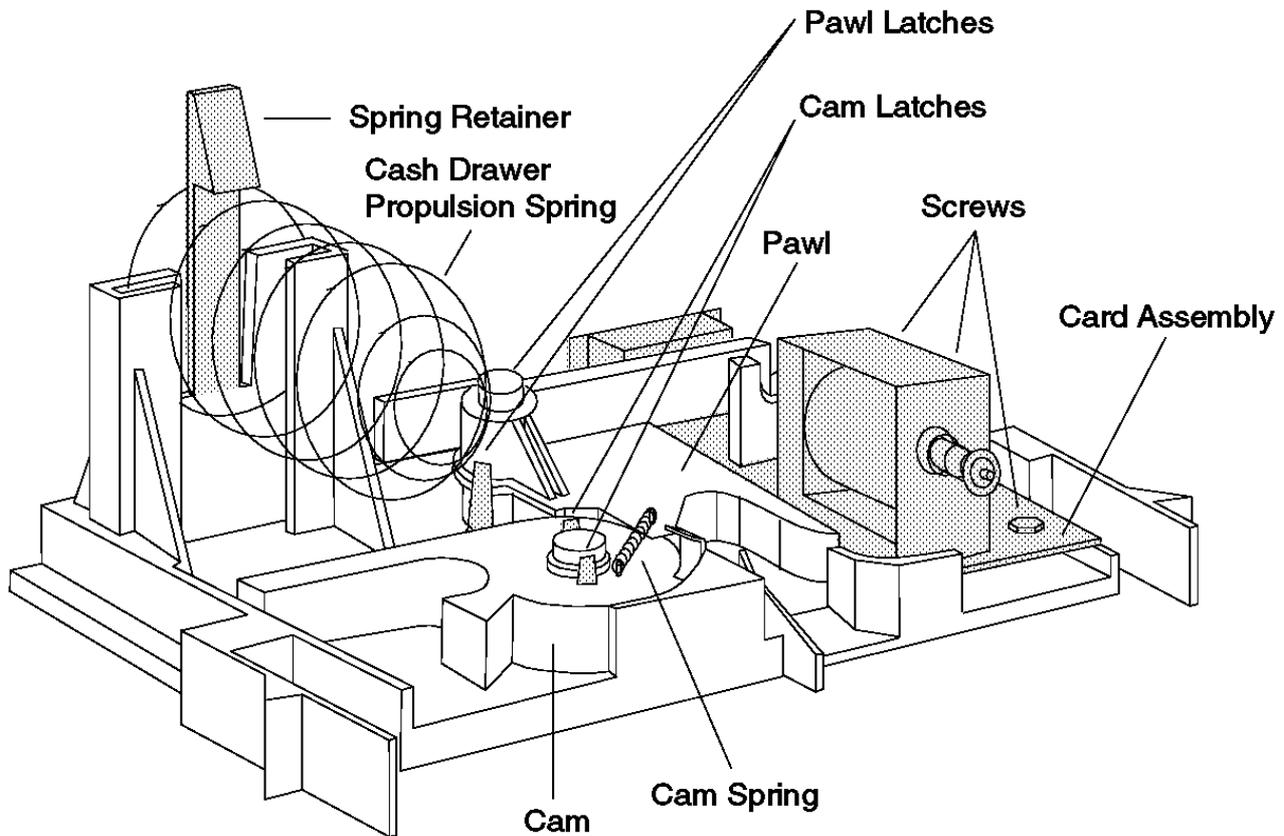

Figure 2-9. Removing and Replacing the Card Assembly and Cam
4. Remove the cash drawer propulsion spring by pushing the spring retainer and sliding the spring up out of its mounting slots. See Figure 2-9 in topic 2.3.9.
4. Remove the cam spring. See Figure 2-9.